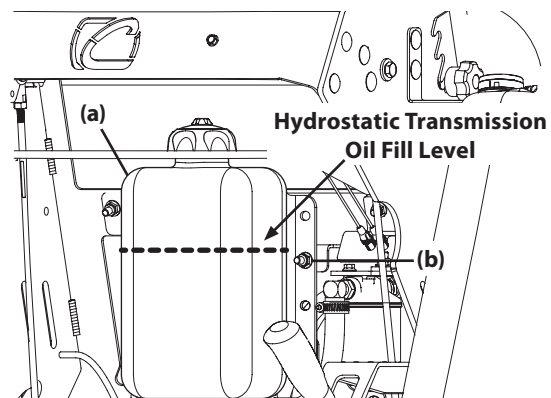

Figure 26
2. Ensure the hydrostatic transmission oil reservoir level is just above the upper reservoir mounting bolts (b) as shown in Figure 26.
7. Add hydrostatic transmission oil until the level is even with the upper reservoir mounting bolts (Figure 26).